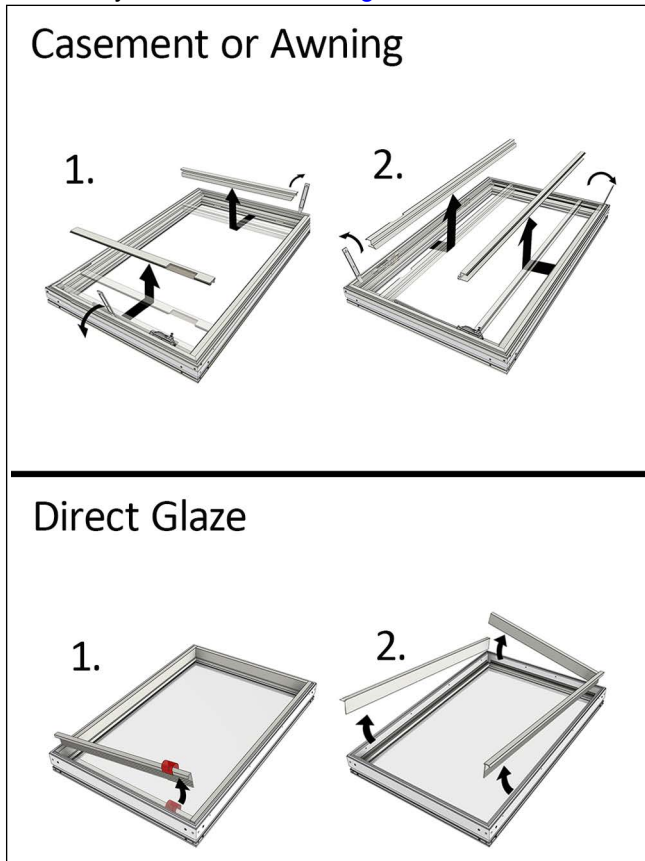

Figure 12
1. Carefully remove all covers starting at head jamb, then sill, and lastly jambs. A small pry bar may be necessary for removal. See Figure 12.